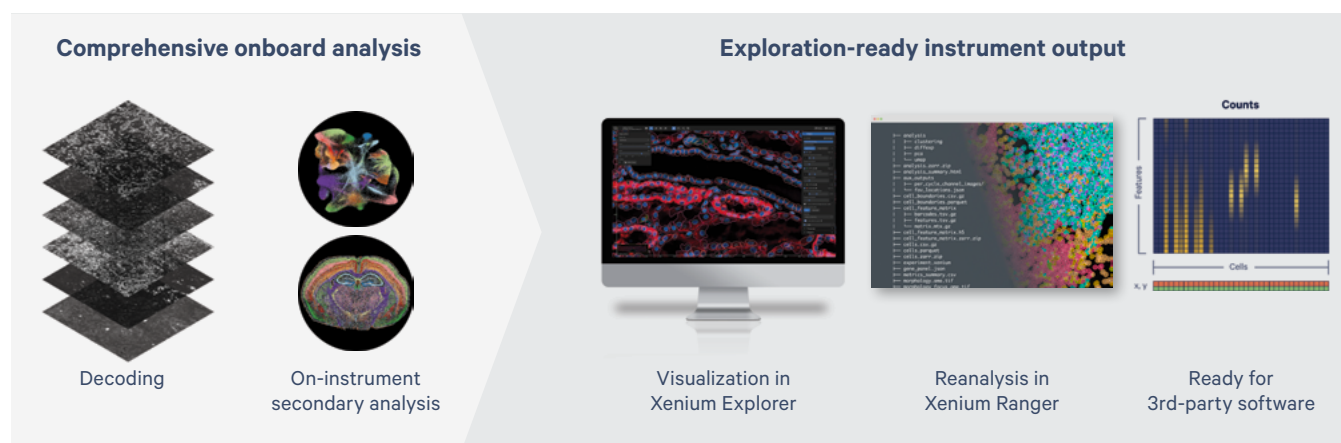

Figure 3. Xenium's streamlined onboard and off-instrument data analysis.
Xenium analysis software allows for immediate exploration of the assay's subcellular readout. This functionality is delivered in two parts: (1) comprehensive onboard analysis and (2) off-instrument analysis that leverages the exploration-ready output generated by the Xenium Analyzer (Figure 3).
Immediately following an experiment run, the Xenium Analyzer output can be easily transferred off instrument for interactive visualization using the Xenium Explorer desktop application or community-developed tools (Figure 3). Xenium Explorer is a data visualization application for exploring, QCing, and analyzing Xenium In Situ data. It is designed to allow map-like panning and zooming across high-resolution morphology images, cells, and transcript and protein data, offering easy navigation of gene lists and cell groups to explore spatial- and cell-type-specific patterns of gene and protein expression in addition to facilitating tissue-scale comparisons.